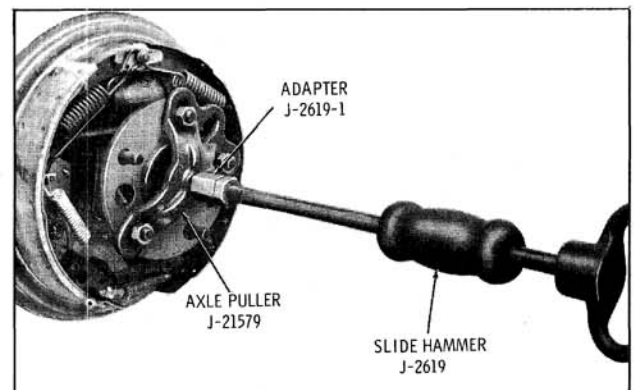

Fig. 10-5 Removing Axle Shaft
4. Pull out axle shaft assemblies as shown in Fig. 10-5.